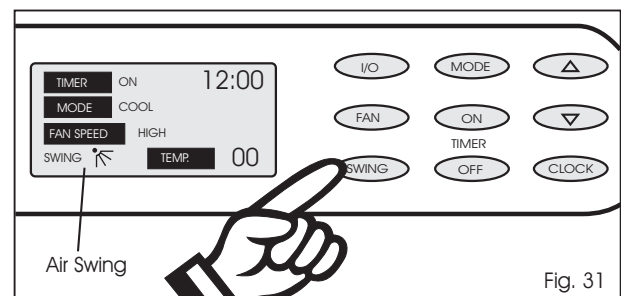

Fig. 31
- 4) If you desire **oscillation**(auto-swing) push the **SWING** key pad (the " air swing" symbol will be displayed in the display window).Fig.31.